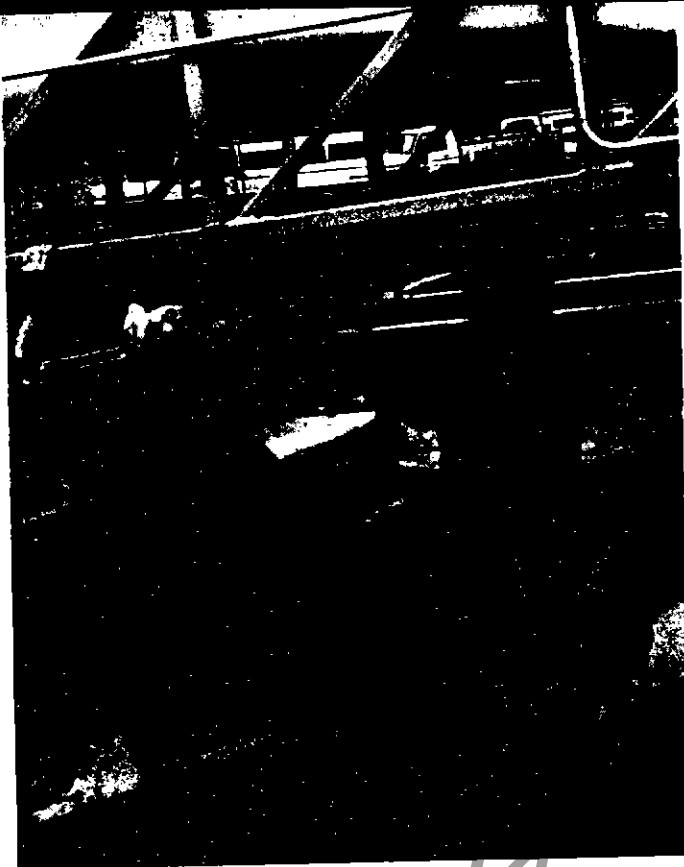

Fig. 32
- g. Raise the crank screws to meet the channel strip. This will support the lower slide frame. (Fig. 32)